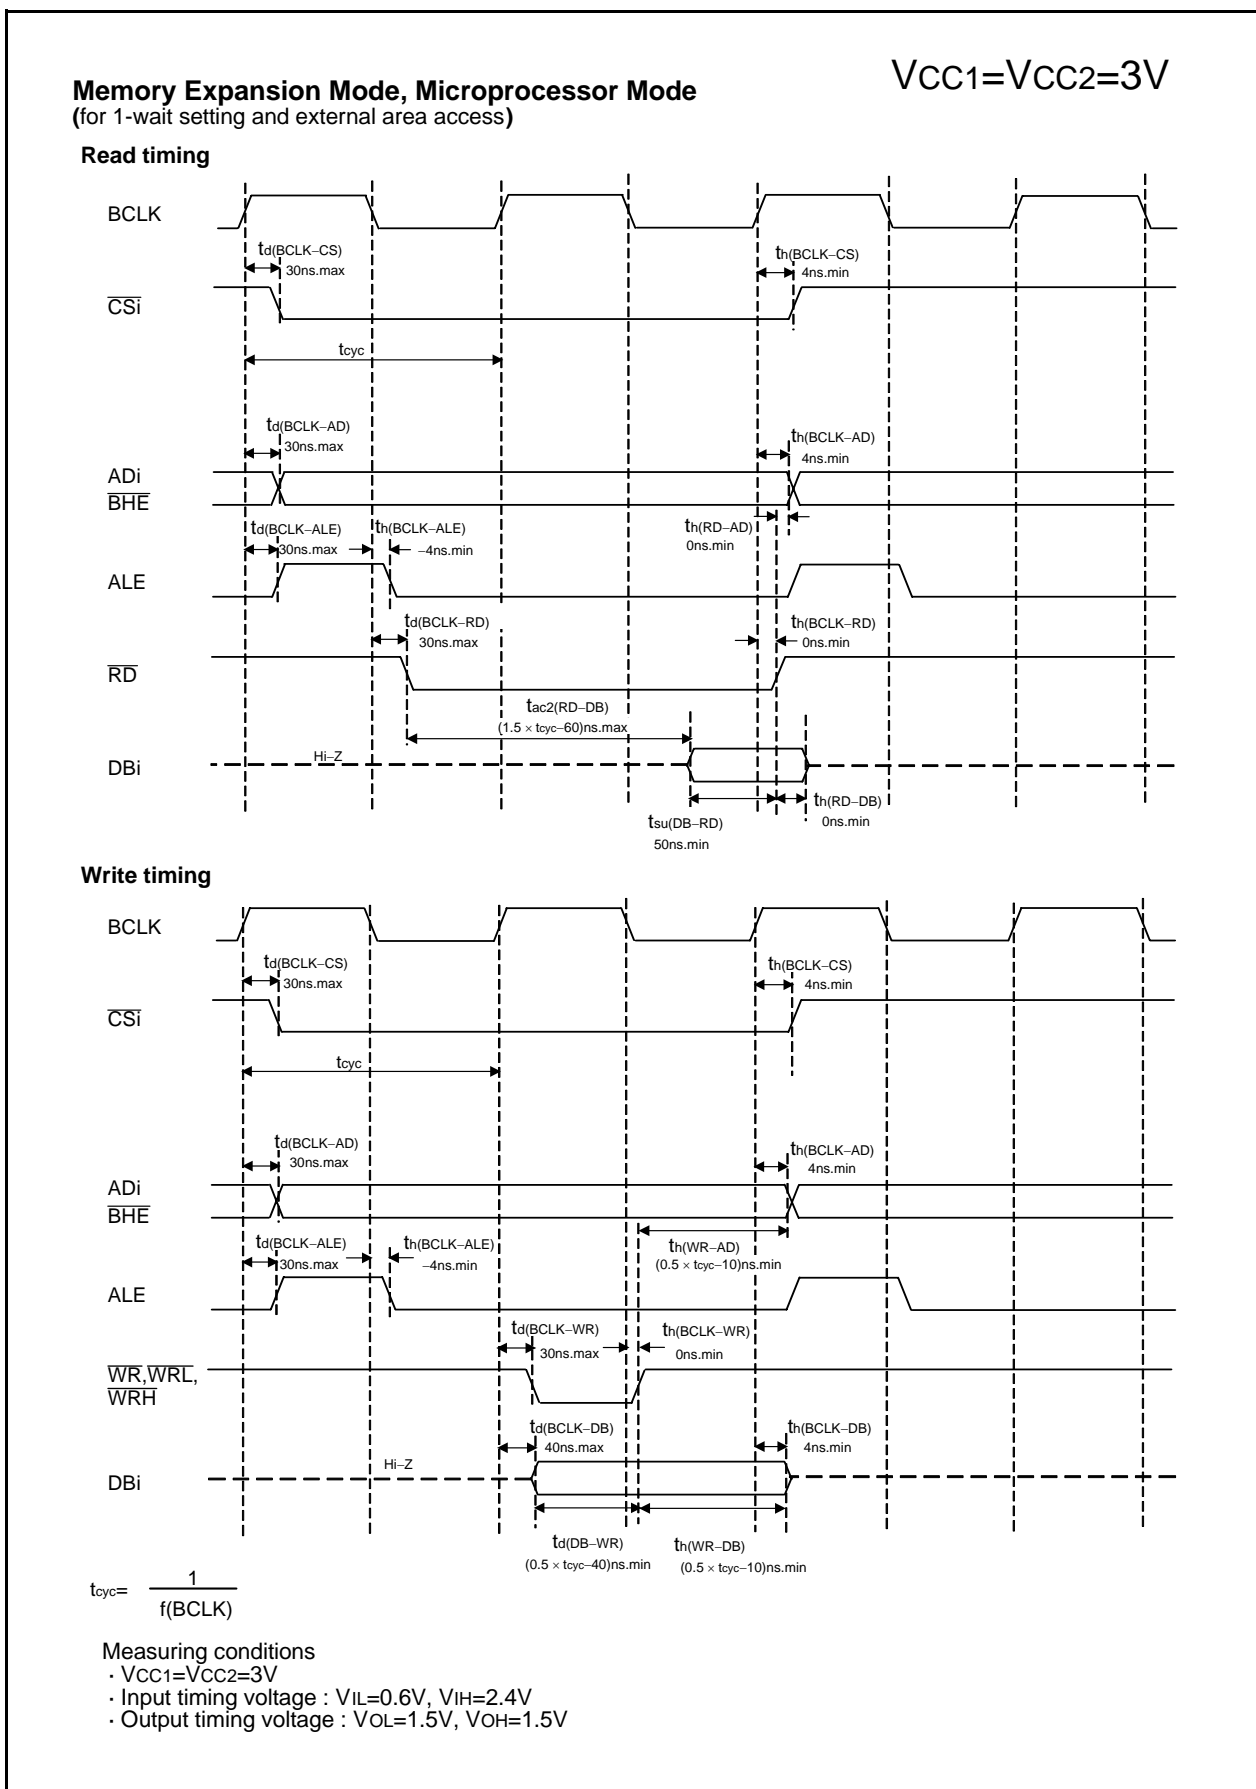
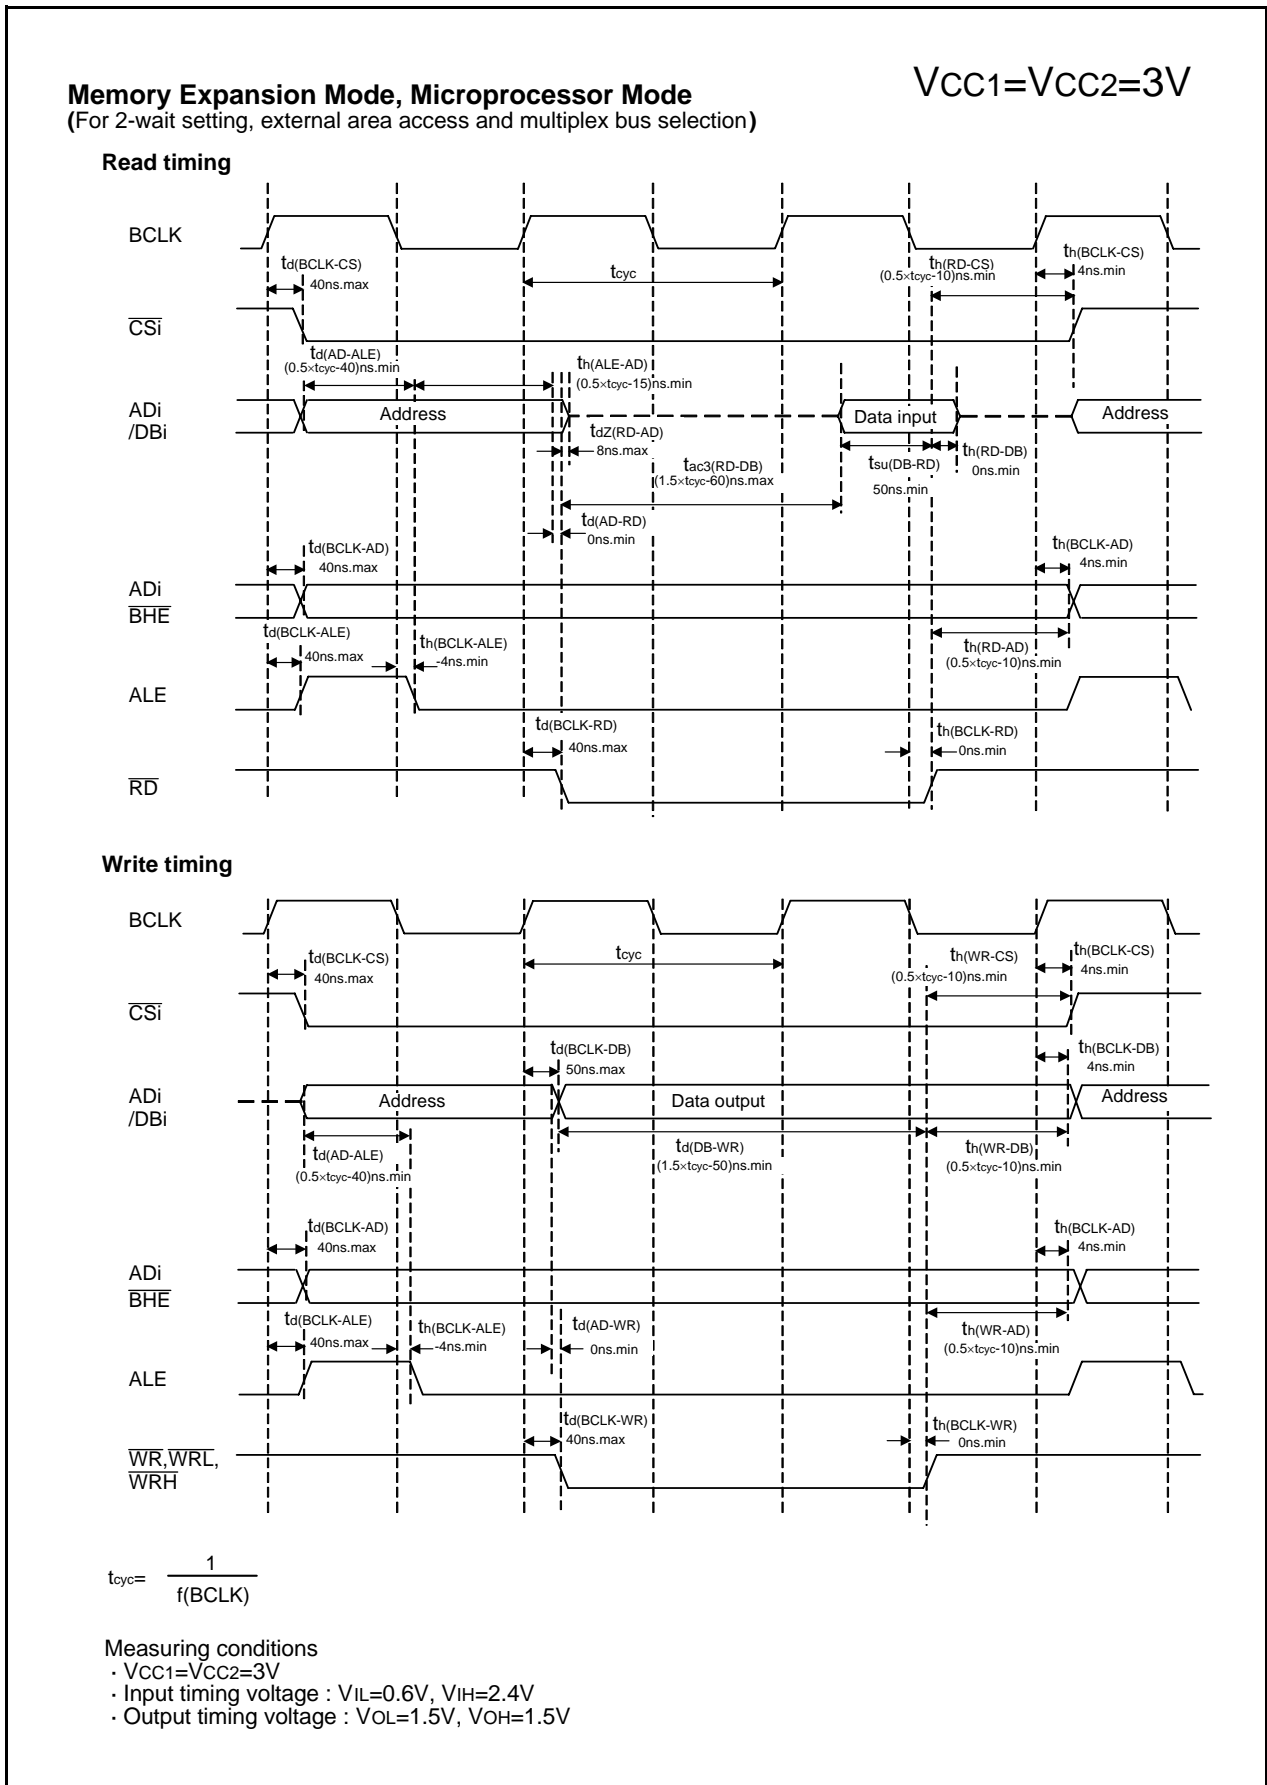

Figure 5.17 Timing Diagram (5)
Figure 5.20 Timing Diagram (8)
33 34,74 36 38,55 41 41-43, 58-60 44 47-48 49-50 52 53 58 61 64-65 66-67 69 70-85	Table 5.4 A-D Conversion Characteristics is revised. Table 5.5 D-A Conversion Characteristics revised. Table 5.6 to 5.7 and table 5.54 to 5.55 are revised. Table 5.11 is revised. Table 5.14 and 5.33 HLDA output deley time is deleted. Figure 5.1 is partly revised. Table 5.27 to 5.29 and table 5.46 to 48 HLDA output deley time is added. Figure 5.2 Timing Diagram (1) XIN input is added. Figure 5.5 to 5.6 Read timing DB → DBi Figure 5.7 to 5.8 Write timing DB → DBi Figure 5.10 DB → DBi Table 5.30 is revised. Figure 5.11 is partly revised. Figure 5.12 Timing Diagram (1) XIN input is added. Figure 5.15 to 5.16 Read timing DB → DBi Figure 5.17 to 5.18 Write timing DB → DBi Figure 5.20 DB → DBi Electrical Characteristics (M16C/62PT) is added.